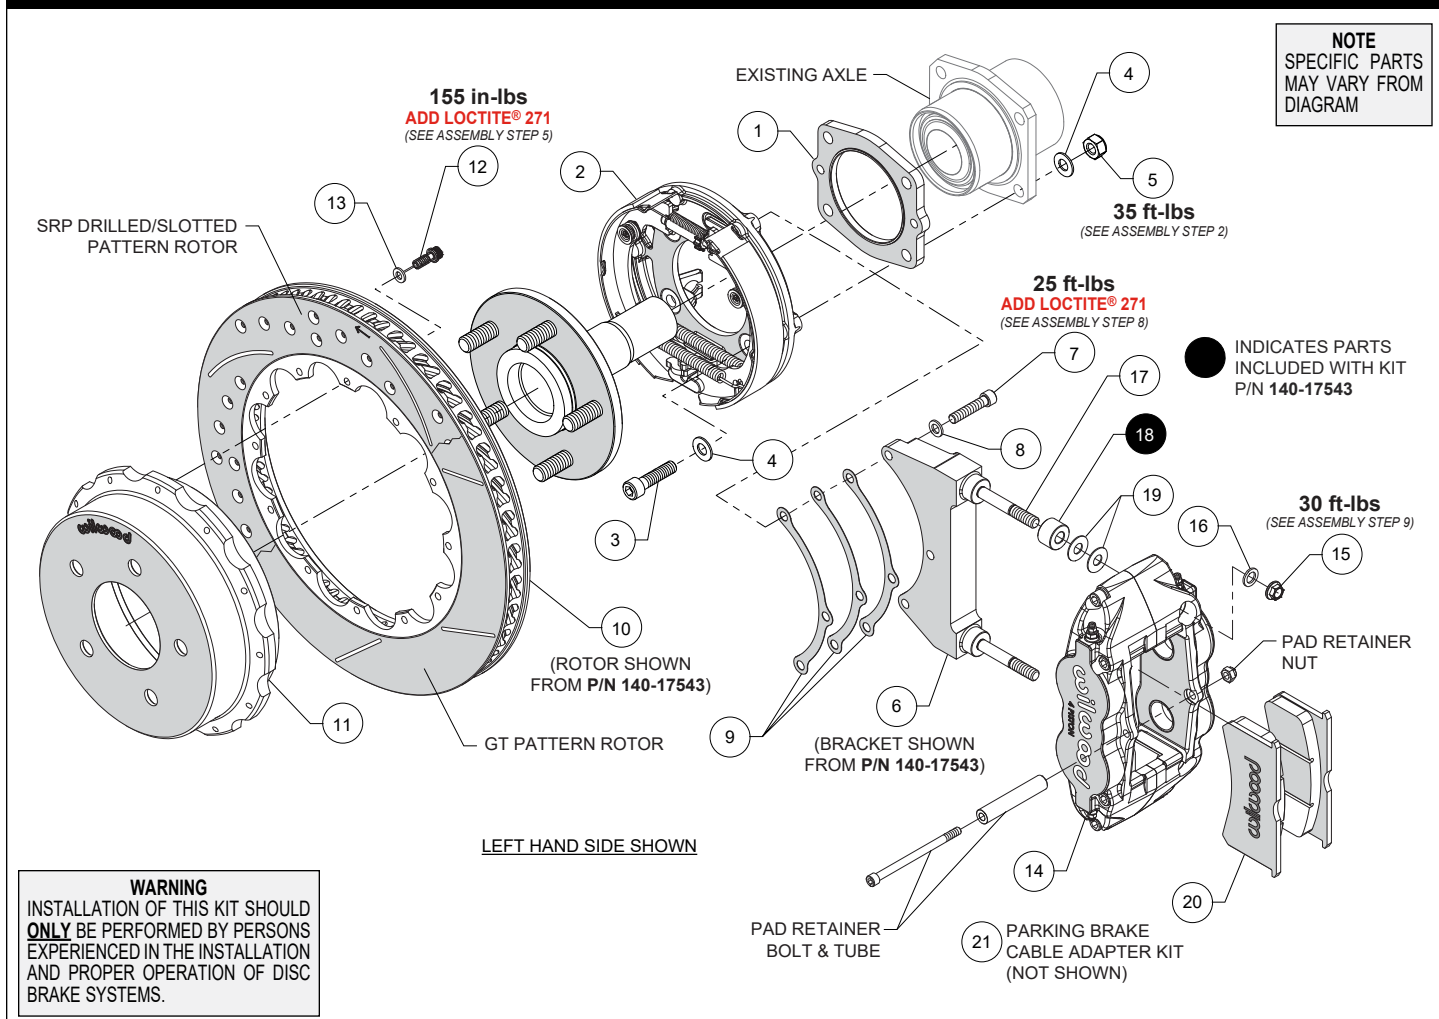
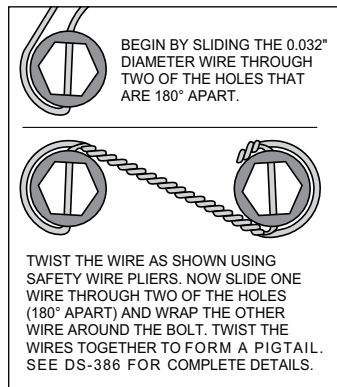

Figure 1. Typical Installation Configuration
Figure 4
NOTE: Numbers in parenthesis refer to the parts list and Figure 1 on the preceding pages.
STEP 1 Slide the parking brake assembly spacer (1) onto the axle housing as shown in Photo 1 and Figure 1. **NOTE:** Ensure the spacer fits flush against the axle flange.
STEP 2 Orient the parking brake assembly (2), as shown in Figure 1. **NOTE:** The brake shoe adjuster star wheel should be at the top of the assembly when mounted (see arrow, Photo 2). Mount assembly (2) to axle housing flange using bolts (3), washers (4), and locking nuts (5), Photo 2 and Figure 1. Ensure that the backing plate of the parking brake assembly fits flush against the spacer (1). Torque lock nuts (5) to value shown in Figure 1.
STEP 4 The radial mount caliper bracket (6) should initially be installed with clean, dry threads on the mounting bolts. Orient the bracket, as shown in Figure 1 and Photo 4, and install using bolts (7)
and washers (8). Initially place three .015" thick shims (9) on each bolt between the bracket and the backing plate of the parking brake assembly (2), Figure 1, Photo 3. Temporarily tighten the mounting bolts. **NOTE:** The bracket must fit squarely against the mount bosses on the backing plate. Inspect for interference from casting irregularities, machining ridges, burrs, etc. Later, after the caliper
STEP 5 Orient the rotor (10) and the hat (11) as shown in Figure 1 and Photo 5. Attach rotor to hat using bolts (12) and washers (13). Apply red *Loctite*® 271 to the bolt threads and torque to value shown in Figure 1 using a criss-cross pattern. For an added measure of security, the bolts may be safety wired using standard 0.032 inch diameter stainless steel safety wire as shown in Figure 4. Refer to Wilwood's data sheet DS-386 (available at www.wilwood.com/Pdf/DataSheets/ds386.pdf) for complete safety wire installation instructions.
- For kit p/n 140-17542: Initially place two .035" thick shims (19) on each stud between the caliper and the radial mount caliper bracket, as shown in Figure 1 and Photo 7.
- For kit p/n 140-17543: Initially place spacer (18) and two .035" thick shims (19) on each stud between the caliper and the radial mount caliper bracket, as shown in Figure 1 and Photo 8.
STEP 8 Mount the caliper (14) onto the radial mount caliper bracket (6) using lock nuts (15) and washers (16), Figure 1. Temporarily tighten the lock nuts and view the rotor through the top opening of the caliper. The rotor should be centered in the caliper, Photo 9. If not, adjust by adding or subtracting .015" shims (9) as necessary between the radial mount caliper bracket (6) and the backing plate of the parking brake assembly (2). Always use the same amount of shims on each of the three mounting bolts
(7). Once the caliper alignment is correct, remove the radial mount caliper bracket bolts (7) one at a time, apply red *Loctite*® 271 to the threads, and torque to value shown in Figure 1.
STEP 9 Remove the caliper pad retainer bolt, nut, and tube from the caliper, Figure 1. Insert the brake pads (20) into the caliper, with the friction material facing the rotor, as shown in Photo 10. Check that the top of the brake pad is flush with the outside diameter of the rotor, Photo 11. If not, adjust by adding or subtracting shims (19)
between the caliper and the bracket. After the caliper pad height is set, torque the caliper lock nuts (15) to value shown in Figure 1. Secure the brake pads in place with the pad retainer tube, bolt, and locknut. The locknut should be snug without play in the bolt or tube. Be cautious not to over tighten.
STEP 11 Install three lug nuts to hold the rotor/hat (10/11) securely in place, remove the rubber grommet in the backing plate (2) and adjust the parking brake shoes outward (using a drum shoe adjustment tool available at your local auto parts store) while spinning the rotor/hat (10/11) until a slight drag is felt against the hat/drum. Replace the rubber grommet when finished.
STEP 12 The OEM brake cable is utilized with Wilwood brake cable adapter kit, p/n 330-17540, included in this brake kit. Cut off OEM cable barrel, initially leaving as much cable as possible and discard return spring. **NOTE: It is recommended to wrap the cable with tape before cutting to reduce risk of fraying.** Reference Photos 12 and 13. With the parking brake pedal fully released, the clevis attached to the drum actuation lever (A), and the cable sheath end clipped into the cable bracket (B), determine the cut off length needed for the OEM cable. The cable must be left long enough to engage the clevis and barrel but not interfere with the actuation lever. Cut the cable to the determined length. Install the clevis and barrel onto the cable and adjust barrel position as needed, Photo 13. Then secure barrel to cable by screwing set screw into barrel. Ensure any excess cable does not interfere with the operation of the parking brake mechanism. Trim any excess cable if necessary. Once the barrel position is correct, apply blue thread locker to set screw threads and torque set screw to 35 in-lbs.